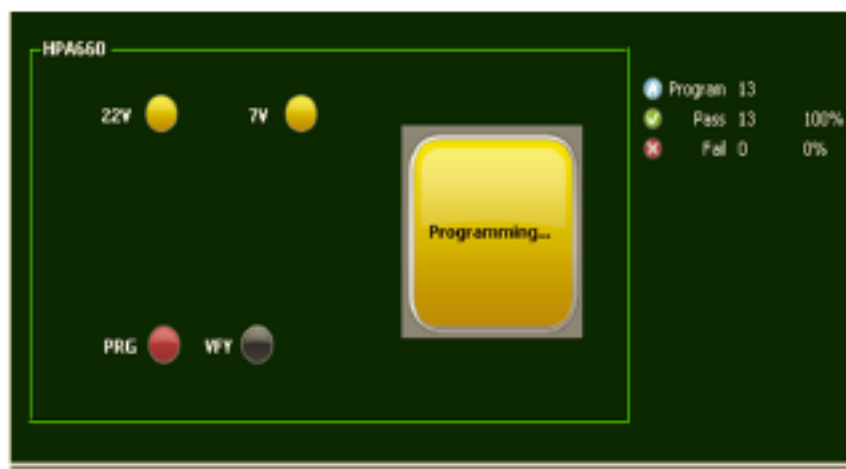

Figure 13. Programming IC
10. See Figure 9 to Figure 13 for complete sequence of EPROM programming.